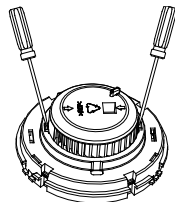

Fig.9
- a) Open the top cover of detector, and draw out the sensing chamber by slightly lifting its two sides using a straight screwdriver, as shown in Fig. 9.